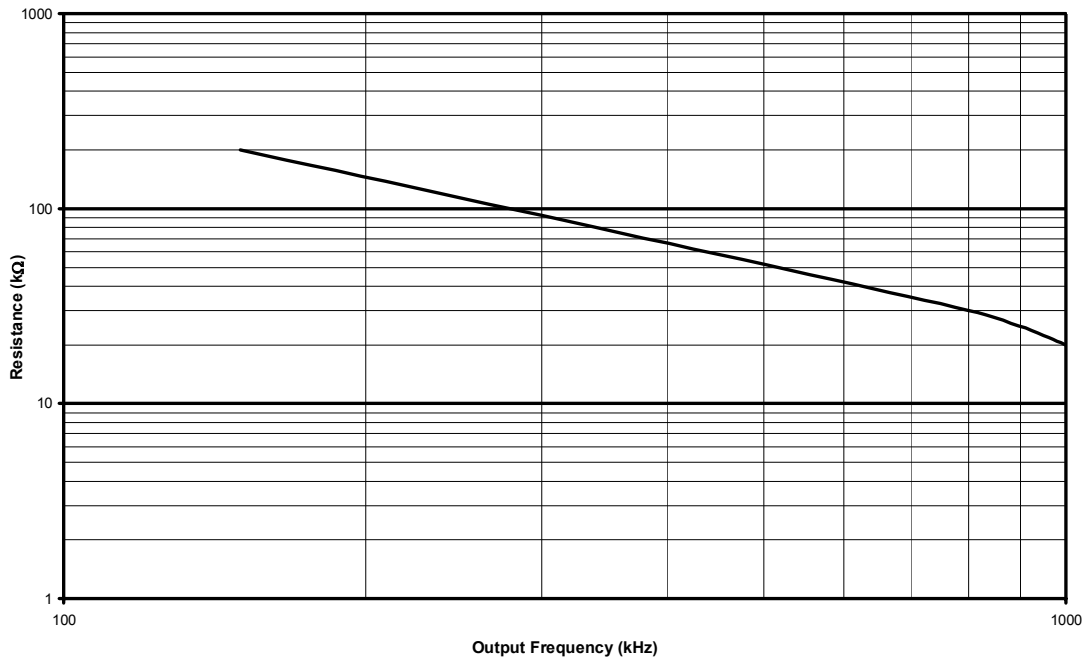
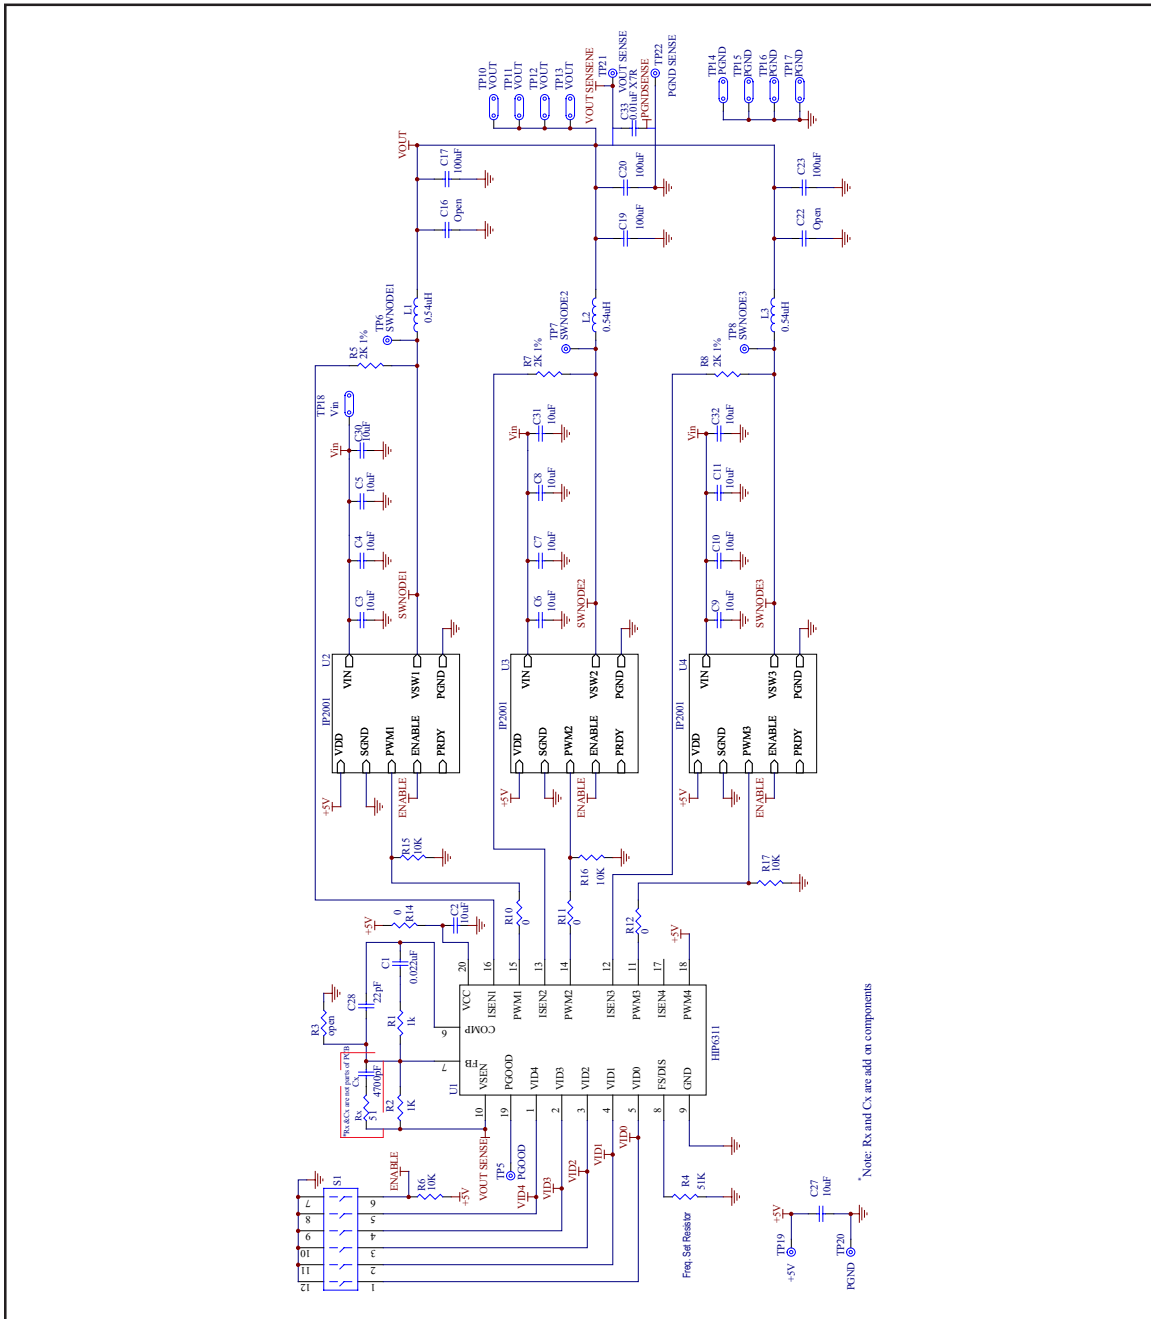

Figure 1 - R4 vs. Frequency per Phase
Fig. 3 - Reference Design Schematic
In this document, table 1 and figure 1 are provided to enable engineers to easily evaluate the iP2001 in a 3-phase configuration that is capable of providing up to 60A in a lab environment without airflow. Figures 3, 4, 5 and 6 and the complete bill of materials in table 2 are provided as a reference design to enable engineers to very quickly and easily design a 3-phase converter. In order to optimize this design to your specific requirements refer to the data sheet for the controller listed in the bill of materials. A variety of other controllers may also be used, but the design will require layout and control circuit modifications.
- The switching frequency per phase is set to 500kHz with the frequency set resistor R4. This creates an effective output frequency of 1.5MHz. The graph in figure 1 shows the relationship between R4 and the switching frequency per phase. This frequency may be adjusted by changing R4 according to this graph; however, extreme changes from the 500kHz set point may require redesigning the control loop and adjusting the values of input and output capacitors. Also, refer to the SOA graph in the iP2001 datasheet for maximum operating current at different frequencies.